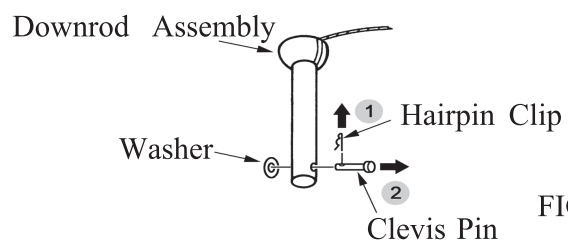

FIG.4
1. Remove the hairpin clip & washer from the clevis pin and remove clevis pin from down rod. (See fig.4)